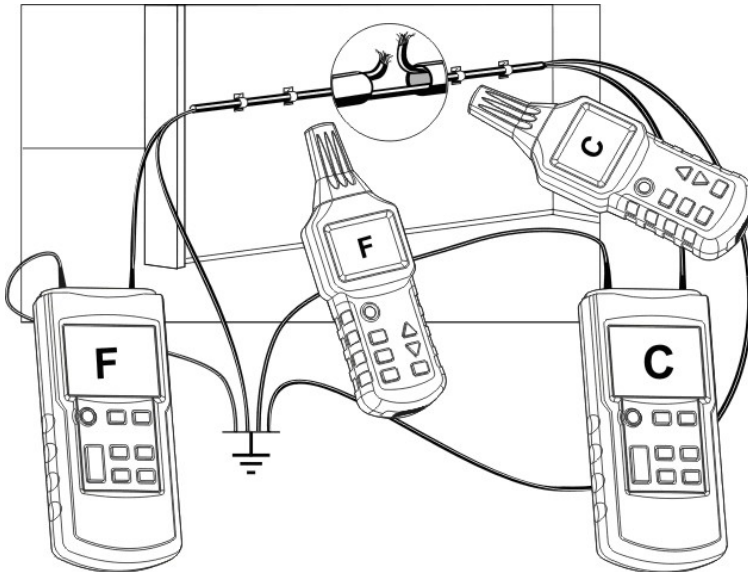

Fig. 12
- All unused lines must be grounded as shown in Fig. 12.
- Connect the two transmitters as shown in Fig. 12.
If the transmitters are connected as shown in Fig. 12, the receiver will indicate C to the left of the line break. If the receiver goes beyond the location of the break, to the right, it will display F. If the receiver is placed right on the break, no line code will be displayed, because of the superposition of the signals from the two transmitters.